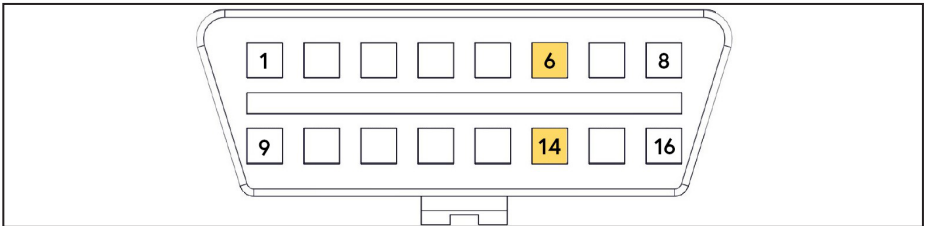

Figure 47 — OBD II connector
- Using the supplied Posi-Taps (see page 32), connect the blue wire from the throttle control to the wire at pin 6 (grey wire with white stripe at time of writing) of the of the OBD II port (Figure 47).
- Using the supplied Posi-Taps, connect the grey wire from the throttle control to the wire at pin 14 (grey wire at time of writing) connected to pin 14 of the OBD II port (Figure 47).